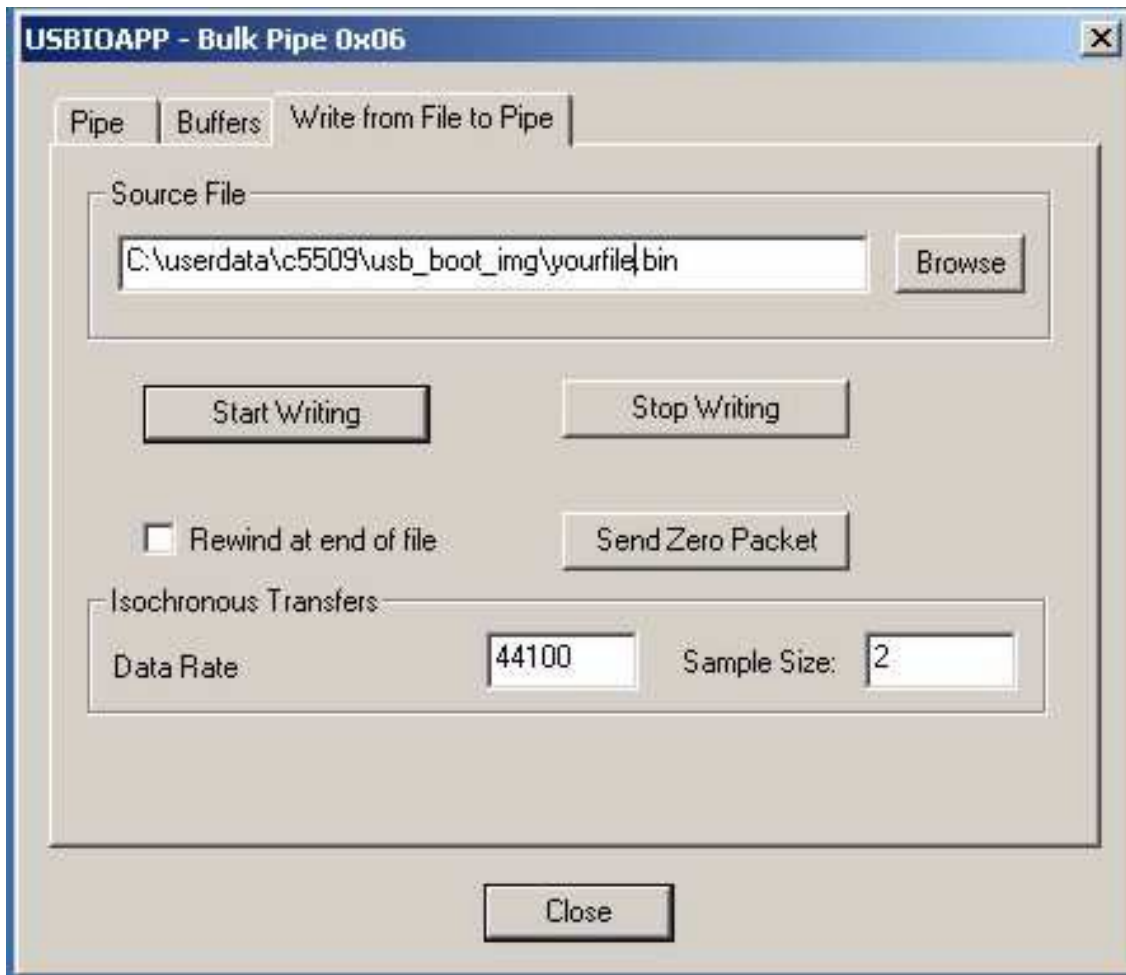

Figure 8. USB Demo Application in Step 11
- Click the Open Pipe button. Enter Endpoint Address 0x06. Select *Write from File to Pipe* in the Purpose field and open a communication pipe to endpoint 0x06 by clicking the Open Pipe button. This will bring up the dialog box, as shown in Figure 8.
11. Select the Write from File to Pipe tab in the dialog box shown in Figure 8. Select the source file to be loaded, and make sure the Rewind at end of file option is not checked. Then select the Start Writing button.